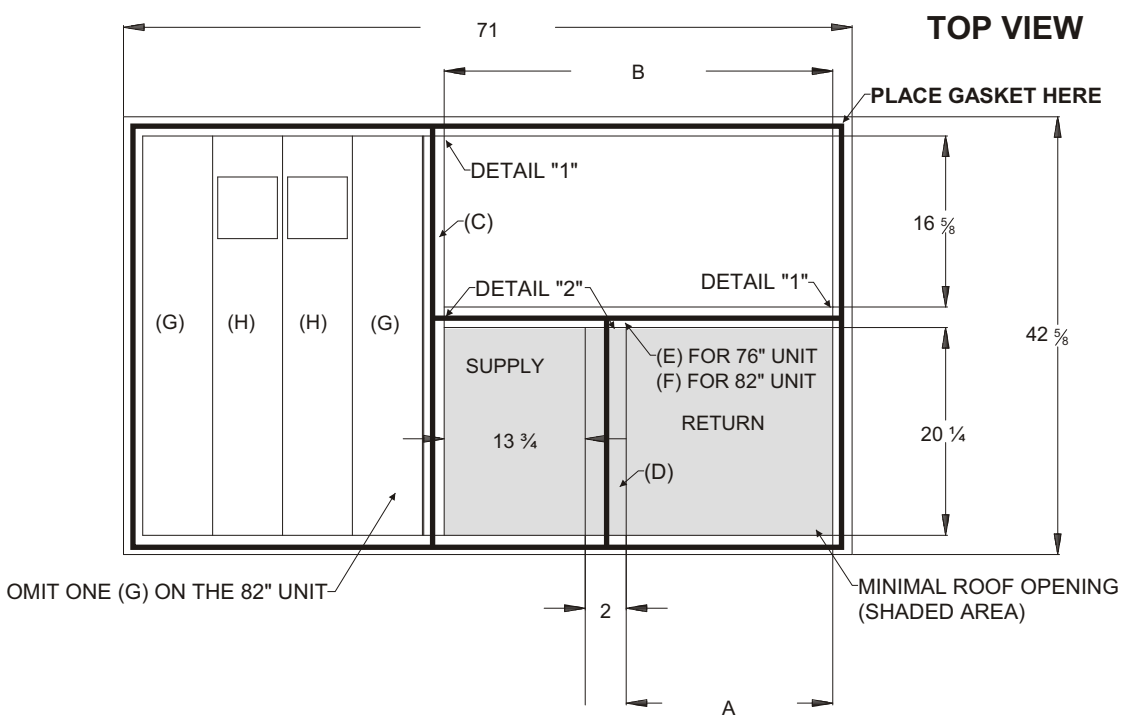

Figure 6
* See Chart in Figure 6
Install the insulation pans (G and H) on the curb as shown in figure 6. **Note: That one insulation pan (G) must be omitted for use with the 82 1/4 inch stretch cabinet.**
Install supply and return ducts into appropriate curb openings. Install gasket to the top of the curb perimeter rails and duct supports as shown in Figure 6.